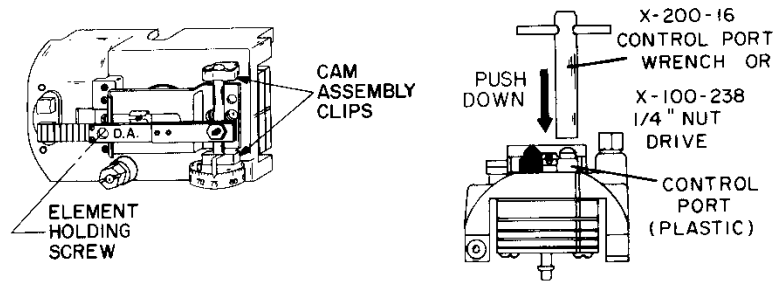

Fig. 1
1. Remove the two cam assembly clips and the cam assembly (see Fig. 1).
To replace the dial and cam, refer to Fig. 1 and proceed as follows: